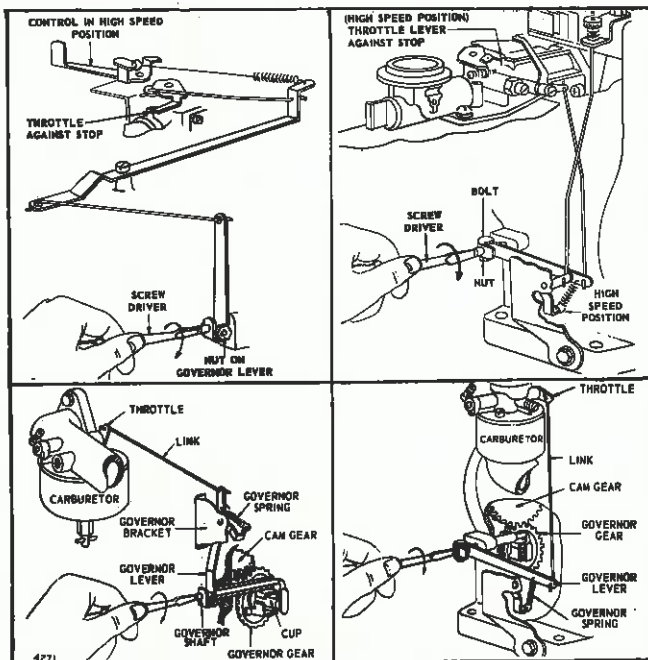

Fig. 20 — Adjust Governor
Loosen screw holding governor lever to governor shaft. Place throttle in high speed position. While holding throttle in this position and with a screwdriver turn governor shaft clockwise as far as it will go. Tighten screw holding governor lever to governor shaft to 35-45 in. lbs. (.4-.52 mkp or 4.0-5.0 Nm) torque. See Fig. 20.
1. Set control lever to maximum speed position, with engine running. see Fig. 20.